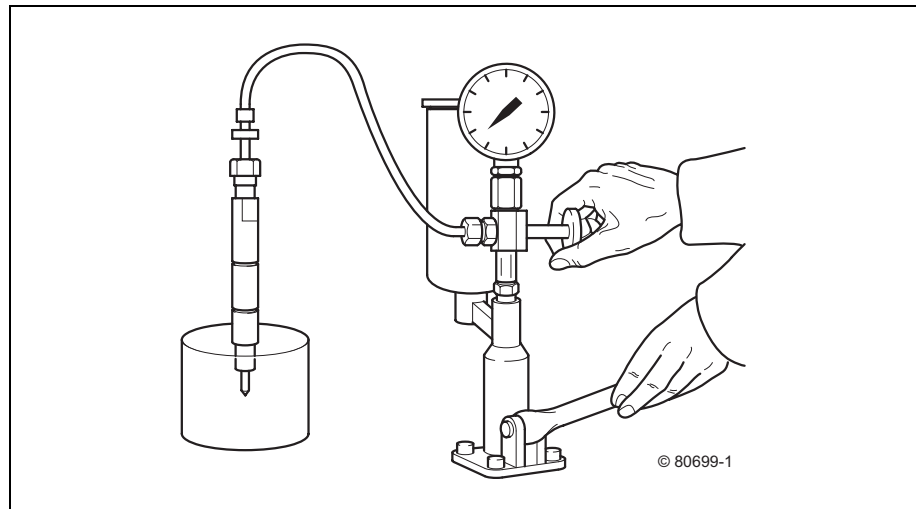

Figure 1 Checking the injection valve
- Connect the injection valve to the nozzle tester and place a transparent container big enough for the fuel underneath it, see Figure 1.